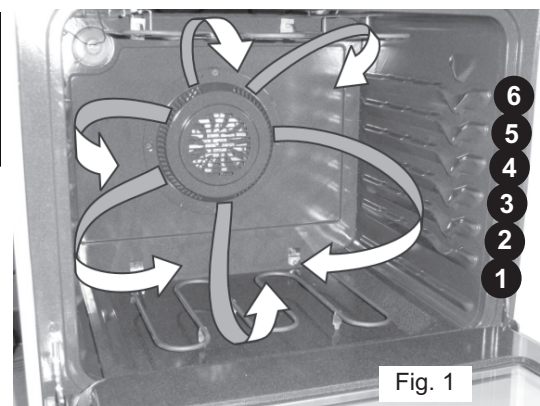

Fig. 1
Speed Bake™ uses a fan to circulate the oven's heat evenly and continuously within the oven (See Fig. 1). This improved heat distribution allows for even cooking and excellent results using multiple racks at the same time. Foods cooked on a single oven rack will generally cook faster and more evenly with Speed Bake. Multiple oven rack cooking may slightly increase cook times for some foods, but the overall result is time saved. Breads and pastries brown more evenly.
2. When using Speed Bake with a single rack, place oven rack in position 3 or 4. If cooking on multiple racks, place the oven racks in positions 2 and 5 (for 2 racks). Place in positions 1, 3 and 6 (for 3 racks). Refer to Fig. 1.
1. Arrange interior oven racks and place food in oven (See Fig. 1).